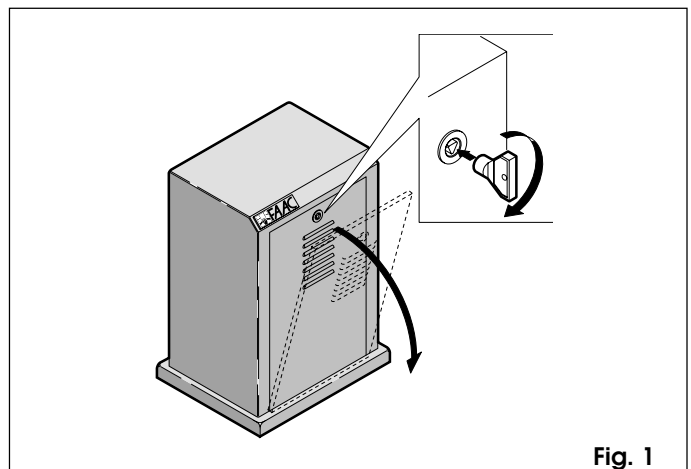

Fig. 1
- Open the door in the casing using the triangular key provided (see Fig. 1).